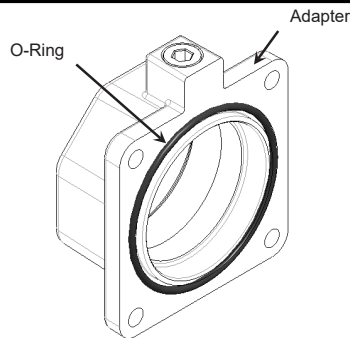

Figure 2. View of Adapter and O-ring Assembly Showing Proper Installation of Gasket
5. Sparingly apply the specified gasket lubricant or equivalent to the o-ring according to Table 2. Install o-rings in upstream thread adapter and valve outlet adapter. O-ring should be pressed into groove as shown in Figure 2.